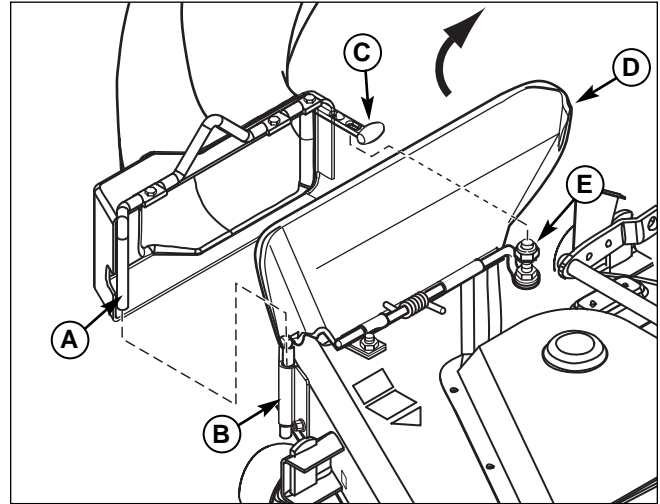

**Figure 13. Install Collector Bags**
1. Raise the cover (A, Figure 13).
2. Attach collector bags (B) using grass bag hanger (C) to bag hanger post (D).